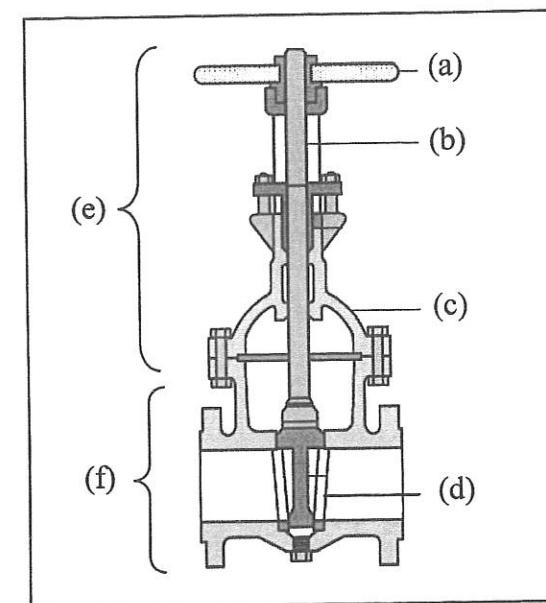

Figure B4a / Rajah B4a
- a. Name all parts of control valve in Figure B4a below: